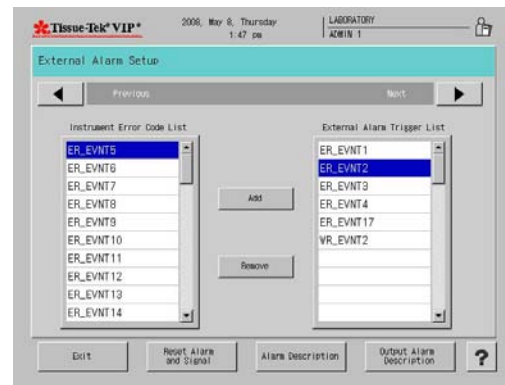

Figure 3-AA
- The External alarm and Signal Setup screen displays (Figure 3-AA).